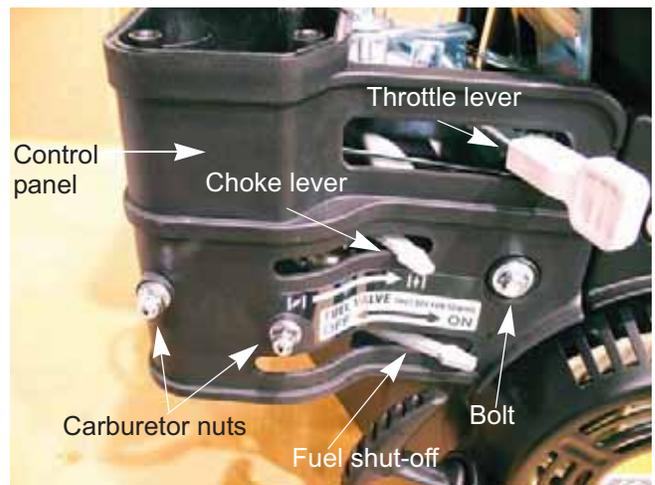

Figure 3.8
3. Pull off the throttle lever knob. See Figure 3.8.